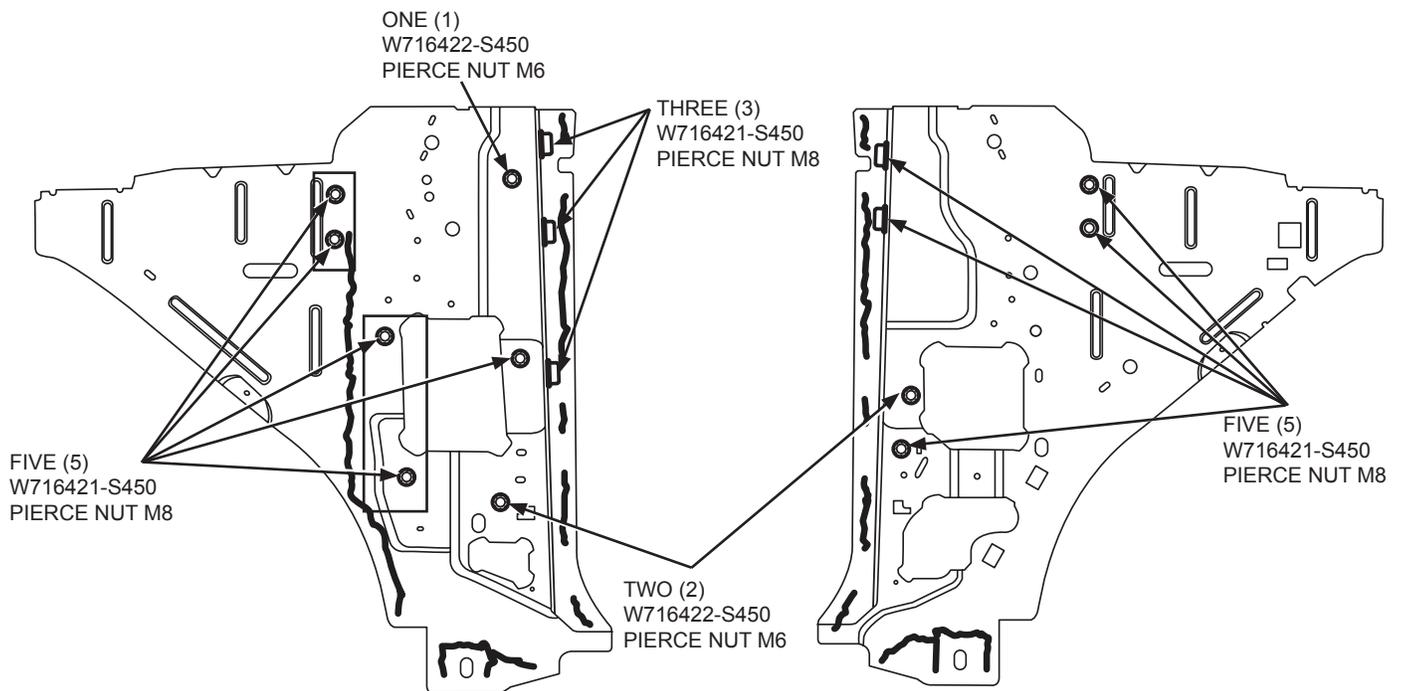

FIGURE 3
- (Refer to Figure 3) for required pierce nut locations.